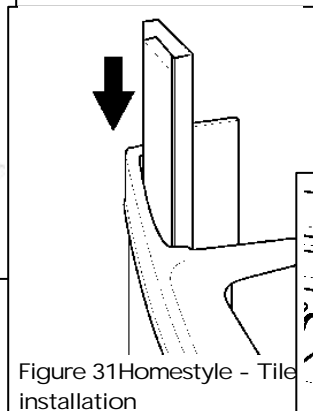

Figure 31 Homestyle - Tile installation
9.2.7 Fit the tile cassettes by sliding them in the grooves at the back of the front casting and in front of the spring clips. See figure 31.